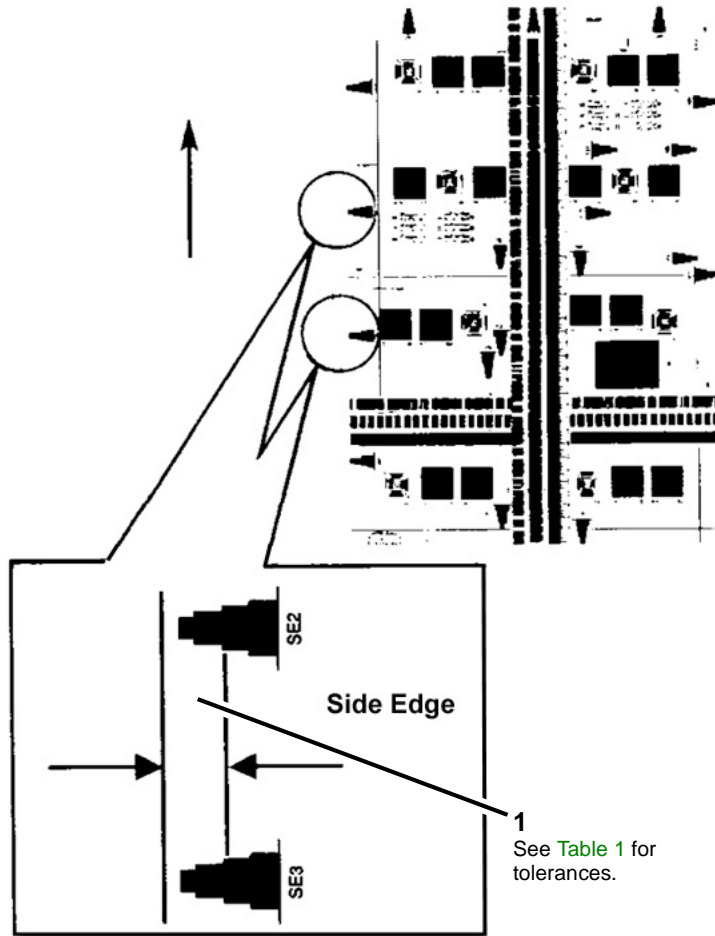

Figure 2 Side Edge Registration Check
4. Measure the Side Edge of the third copy. Figure 2